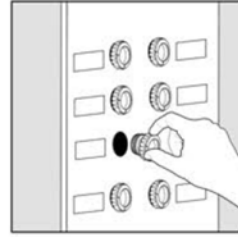

FIG.3
**FIG.3.** Place either the main (Master) switch to "OFF" position, cutting off power to the entire home OR unscrew the fuse that provides power to where the fixture will be installed.